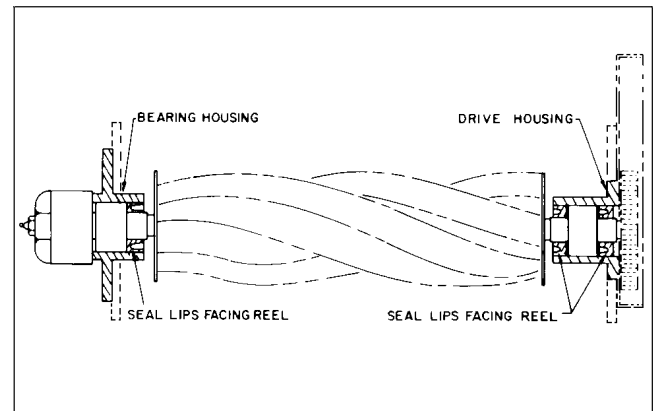

Figure 23
2. Assemble the outer seal (lip facing in to retain grease) into the drive housing using Loctite 242 retaining compound on the outer diameter. Apply a light coat of oil to the seal lips and insert the bearing assembly through the seal from the opposite side (Fig 23).
3. Apply a light coating of oil to the inner seal lips and install (lip facing away from the bearing and toward the reel) in the housing. Install the retaining ring to secure the assembly in the housing (Fig. 23).
4. Apply a light coat of oil to the seal lips of the seal for the bearing housing and install (lip facing away from the bearing) over the bearing assembly (Fig. 23).